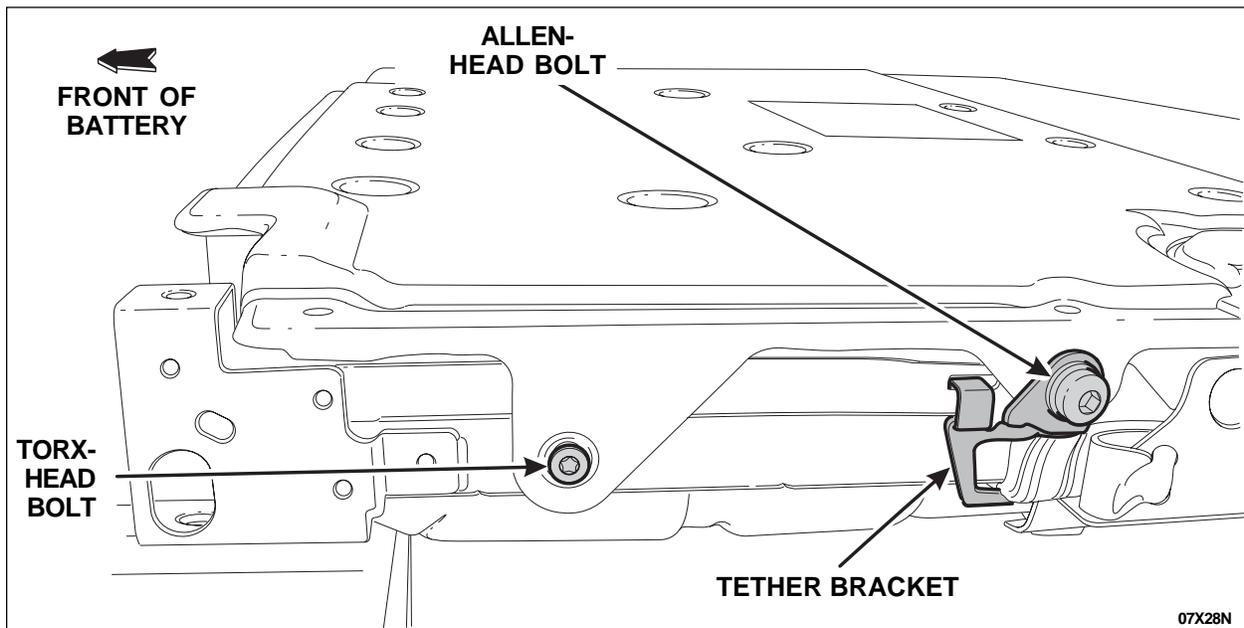

FIGURE 19
27. Tighten the Allen-head bolt on each side of the front battery cover to 20 Nm (15 lb-ft). See Figure 19.
28. Tighten the Torx screw on each side of the front battery cover to 14 Nm (10 lb-ft). See Figure 19.